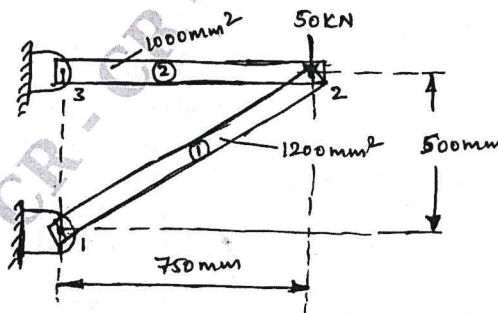

Fig.Q4(b)
- b. Find the nodal displacement, stress and reaction of truss element shown in Fig.Q4(b). Take  $E = 200\text{ GPa}$ .